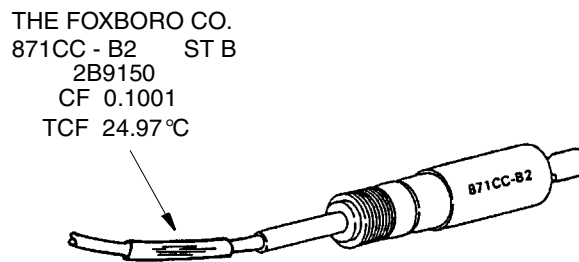

Figure 18. Sensor Identification
871CC Sensors with 0.1 cm^{-1} nominal cell constants are stamped with a 4-digit number (e.g., .1001), which is the Cell Factor (CF) of that particular cell when tested in our factory. These cells are also stamped with a temperature value (tCF) (e.g., 24.97°C), which is the temperature at which that particular transducer read its theoretical resistance value. See Figure 18. When the sensor is connected directly to the Analyzer, these factors may be input directly into the 873CC, 873ACC, 873RS, or 873ARS Analyzer to correct for these offsets. See appropriate analyzer instruction for details of how to enter these values.